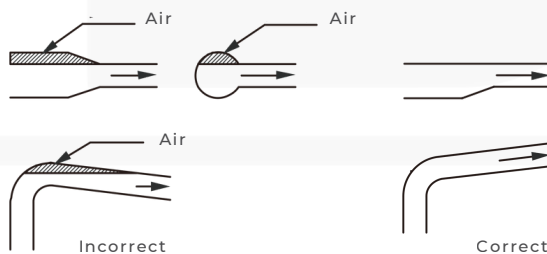
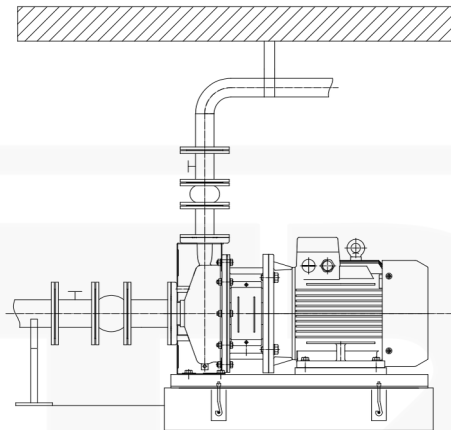

Figure 1
Figure 2
3.3 Piping Connection In principle, the pipe diameter of the inlet and outlet lines must not be smaller than the inlet and outlet diameters of the pump. To reduce friction loss in the inlet pipe, the water inlet pipe should be as short as possible. When installing piping, avoid vapor lock, especially on the suction side of the pump. (See Figure 1 below) Install an isolation valve at each end of the pump so that the system does not need to be drained when cleaning or servicing the pump. (See Figure 2 below)
Ensure that adequate support is provided for the piping on both the pump suction and discharge sides as close to the pump as possible (see Figure 2 below). The mating flanges should fit snugly against the pump flanges without being subjected to tensile force, to prevent tensile stress from damaging the pump.